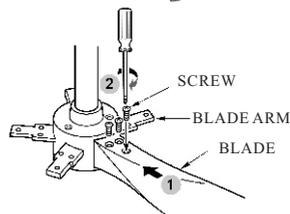

FIG.10
1. Attach each blade assembly to the blade arm using the blade screws. Tighten them securely (see Fig.10)